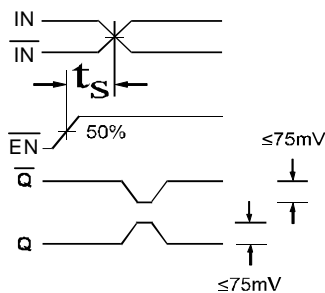

Figure 1. Setup Time
- The setup time is the minimum time that EN must be asserted prior to the next transition of IN/ \bar{IN} to prevent an output response greater than $\pm 75mV$ to that IN/ \bar{IN} transition (see Figure 1).